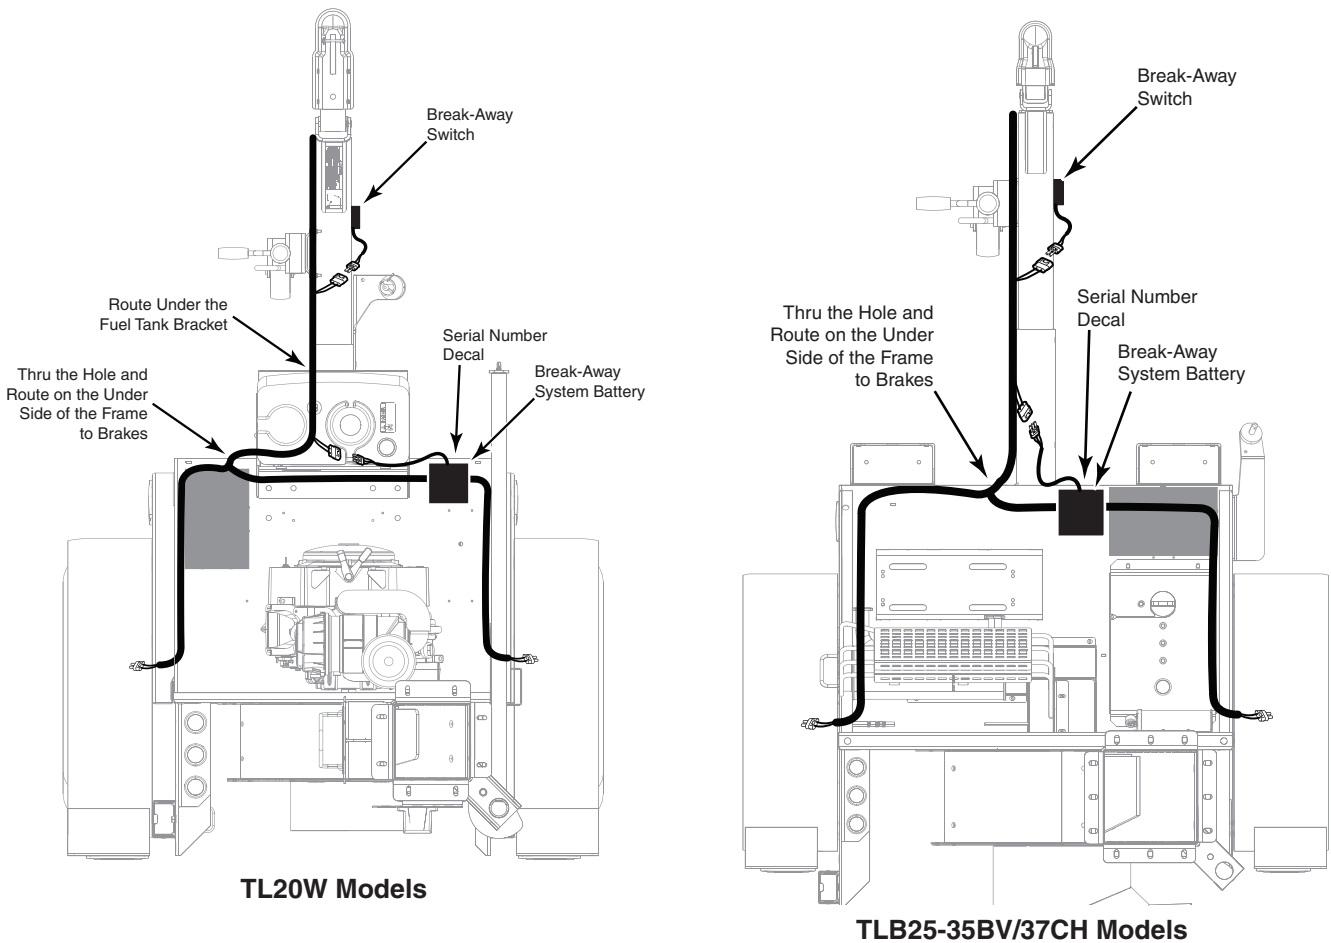
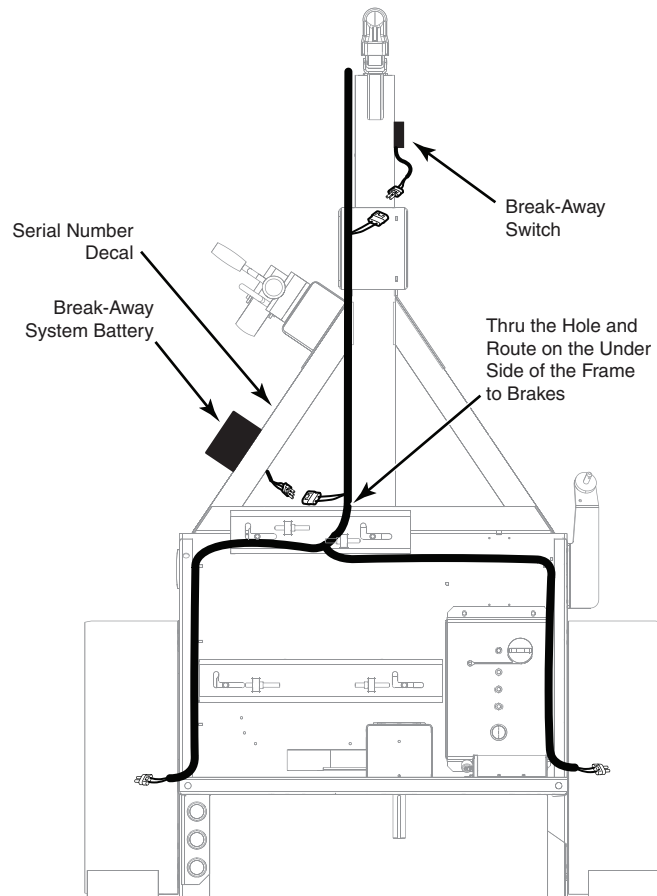

Figure 5. TL20W and TLB25-35BV/37CH Brake Kit Wire Harness Connection
Figure 6. TLB25-48KBD & TLB25-49KBD Brake Kit Wire Harness Connection
13. As indicated in The Engager instruction sheet, mount the Break-Away Switch close enough on the trailer so the cable can be attached to the tow vehicle. Secure using one (1) 1/4 x 1.12" self drilling screw.
14. Mount the battery assembly on the trailer and secure with three (3) 1/4 x 1.12" self drilling screws. See Figure 5 or Figure 6 for battery location for each model.
- 16. Route the wire harness through the trailer and connect to the Break-Away Switch, Break-Away System Battery and Brake Assemblies as shown in Figure 5 or Figure 6.
- 18. Install the serial number decal on the trailer as shown in Figure 5 or Figure 6.